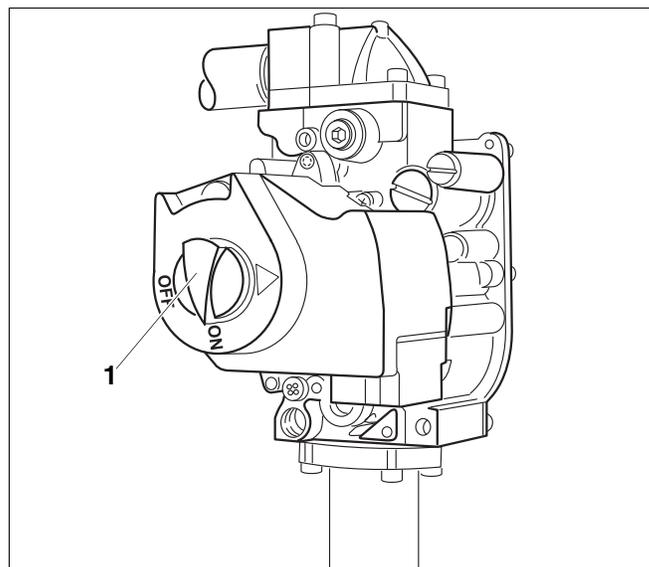

Fig. 15 Gas valve
22. If the gas valve operates correctly, proceed to step 25. If the gas valve does not operate correctly, switch ON/OFF switch (→ Fig. 15) on the gas valve clockwise to the OFF position immediately. Close main gas valve. Disconnect heating system from the power supply and inform the customer service technician or LP gas company.